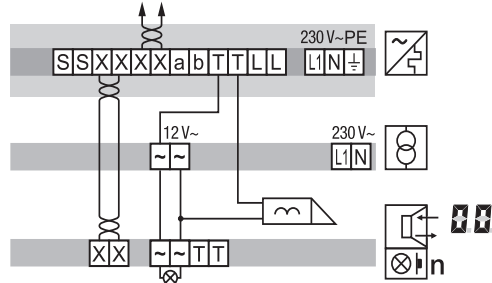

Figure 10: Connection of door station with manipulation-protected door release
- For manipulation-protected installation, connect the door release to the contact of the line power supply (Figure 10).